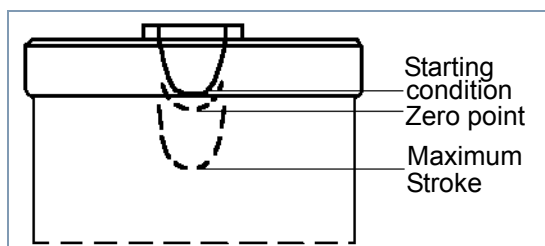

Fig. 4 Zero point
- Detect zero point (pressure point) by slowly impressing the plunger (see fig. 4).